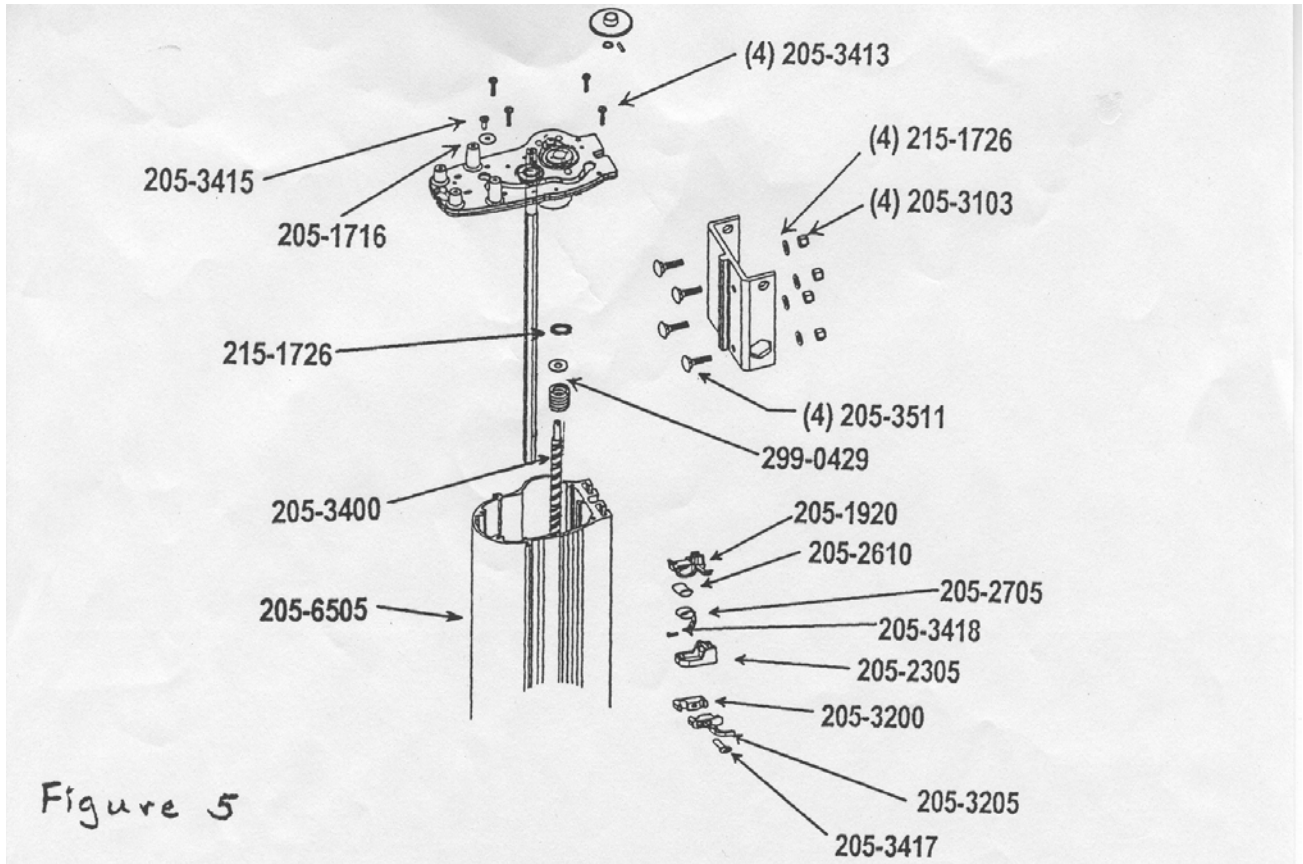

Figure 5
- b.** Remove the lift gear from the lift screw shaft. (**See figure 5, page 10-8.**)
- e.** Using a 5/16" nut driver, remove the 4 screws (P/N 2053413) that hold the top plate in place on the housing (P/N 2056505). (**See figure 5, page 10-8.**)
unit. The wire control system consists of two parts, the wire clamp assembly (P/N 2053200, 2053205, & 2053417) and the tape spring assembly (P/N 2051900, 2052305, 2052610, 2052705, & 2053418). (See **figure 5, page 10-8.**) Both of these items are slid onto the raised “rib” located on the inside surface of the housing (P/N 2056505). The lower wire clamp is held in place by means of a small plastic “finger” that catches in a 1/4” diameter hole in the Vantage motor housing (P/N 2056505). (The hole is located on the transom bracket side of the housing 9 inches down from the top.) Use a 1/4” diameter pin punch in this hole. From the outside, push in the end of the finger to release the lower wire clamp and slide it up and lift the tape spring assembly and wire clamp off of the rib. Next, while supporting the Vantage motor lower unit, use the 5/16” nut driver to remove the four screws (P/N 2053414) that hold the lower support cage (P/N 2990420) assembly into the housing (P/N 2056505). After removing these four screws the entire motor lower unit and shaft, lift screw (P/N 2053400), lift screw yoke (2051510), and yoke bearing race (P/N 2056200) can be lowered out the bottom of the Vantage housing. (See **figures 5 & 6, page 10-8.**) Remove the lower wire clamp, wire tie, and tape spring assembly from the motor wire leads. Then remove the two screws (P/N 2053401) that hold the yoke bearing to the motor shaft. Remove the coil spring (P/N 2990429) and washer from the top end of the lift screw shaft. Remove the broken/stripped lift screw yoke from the lift screw shaft. If necessary, turn the lift screw to unscrew the old yoke and bearing race assembly. Slide the old parts up and off the motor wire leads. Install the required new parts and reassemble the Vantage motor in reverse order of disassembly. Take special care not to twist the motor wire leads and to reinstall the wire tie, lower wire clamp, and the tape spring in the same manner and position they were in prior to disassembly.